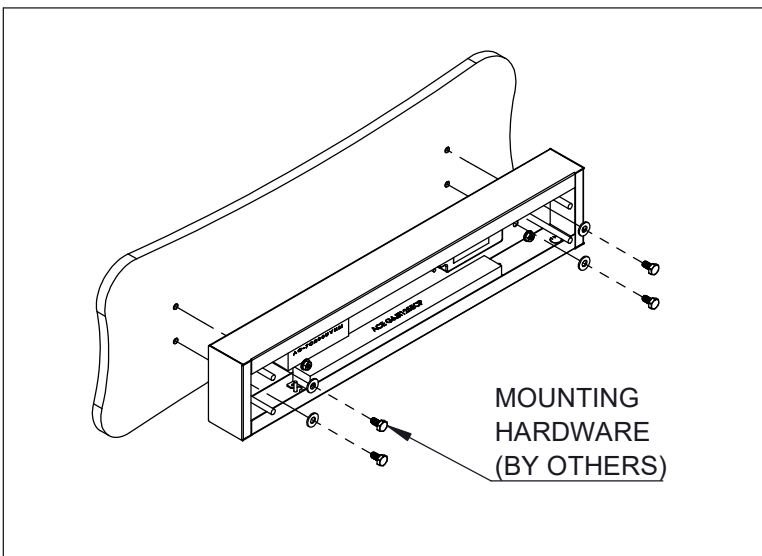

Figure 3
3. Mount Back Box in desired location with hardware provided by others (Fig. 3).